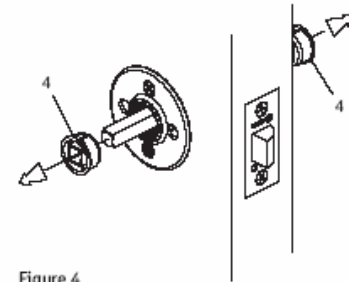

Figure 4
- 5 - Once mounting bracket is secure, remove nylon self alignment plugs [4] and discard, as shown on figure 4.